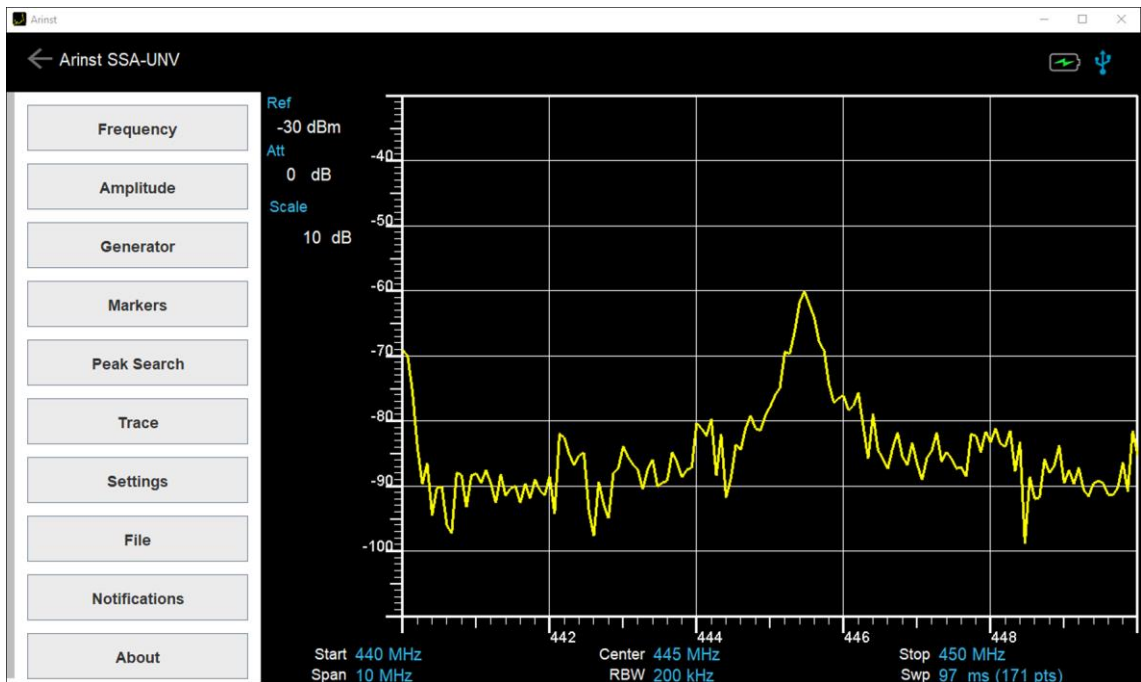

Figure A9 - Spectrum analyzer connected to PC via USB cable
3.4. By clicking on the port number corresponding to the created virtual port named **STMicroelectronics Virtual COM Port** (*in our example designated as COM 3*), close the **Devices** window. The device will be connected to the PC via USB cable. On the PC monitor in the application Arinst SSA will appear graph of the test signal (figure A9), the screen (4) of the spectrum analyzer to save battery power will turn off. The interface of the spectrum analyzer control program is similar to the interface described in Section 8 of this Operation Manual.